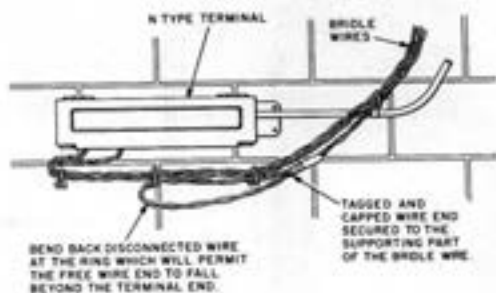

Fig. 6—N-Type Terminal Wall Mounted
- (b) *Horizontally Mounted Terminals:* Dispose of disconnected drops in the manner described in 7.02 for strand mounted terminals. The completed operation is shown in Fig. 6.